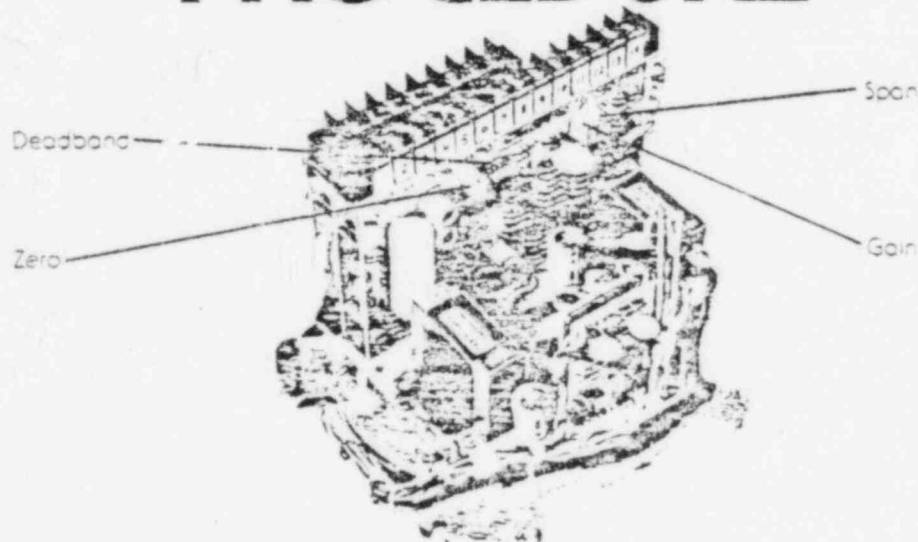

Figure 1—Modutronic 10 Control Locations
- A. Presetting (See Figure 1 for location of control)